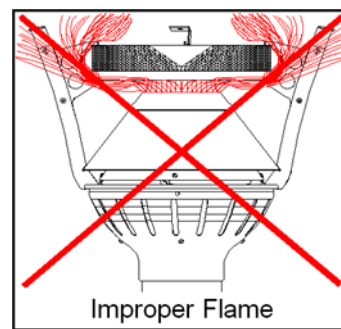

Figure 17: Improper Flame Pattern
5. If at any time flames extend beyond the emitter surface (see image in Figure 17 “Improper Flame”) or black soot is found on the inside of the reflector TURN OFF the heater immediately and place OUT OF SERVICE until repairs are made.